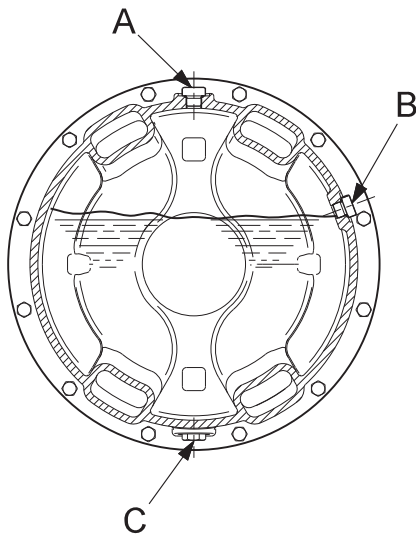

Fig. 8 Pump with oil plugs
1. Identify the screws A, B and C and their positions relative to each other. See fig. 8.